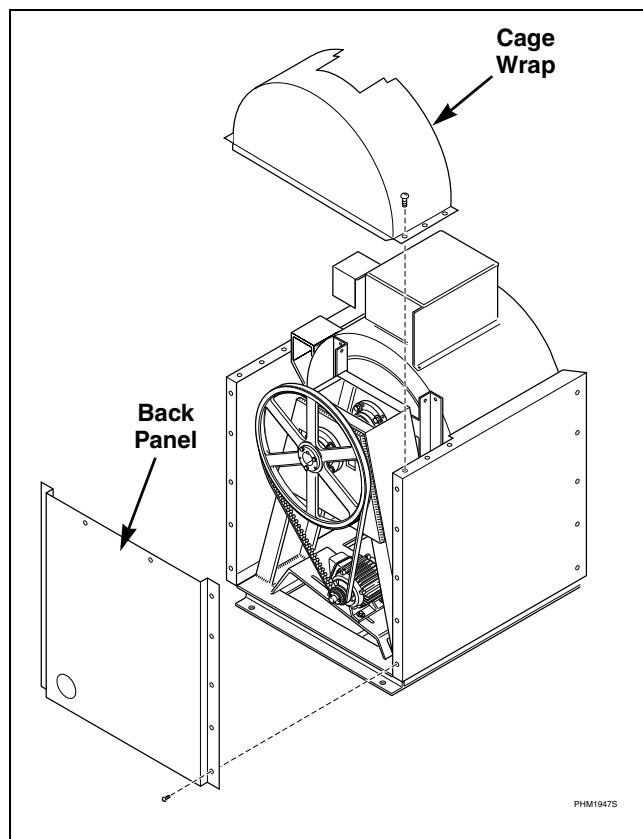
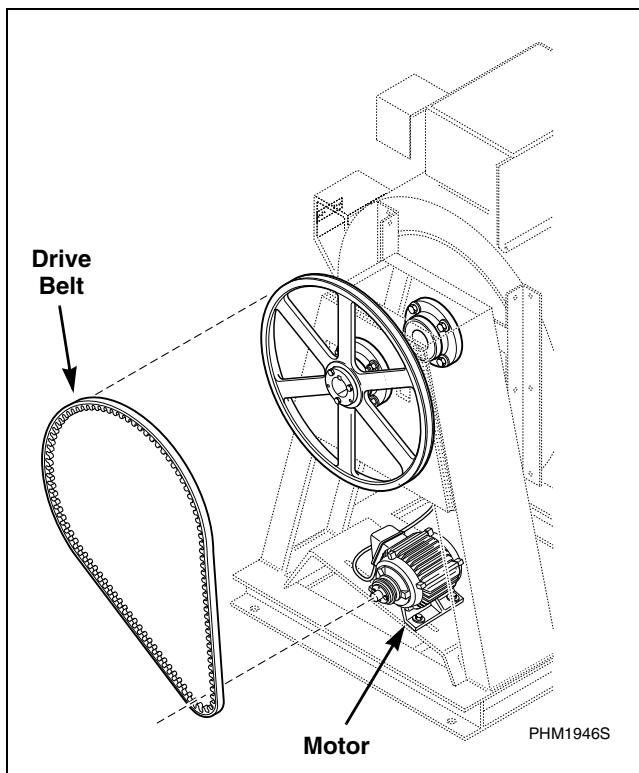

Figure 16
Figure 17
- b. Remove the screws attaching the cage wrap and back panels to the machine. Remove the cage wrap and back panel. Refer to *Figure 16*.
c. Loosen the motor mounting bolts and slide the motor along the motor plate to relieve the tension on the drive belt. Refer to *Figure 17*.
- (1) Using a tension gauge, check the drive belt tension. Belt tension should be between 70 and 90 pounds (\pm 5 pounds). Set the initial belt tension toward the high end of the range.
- (2) To adjust the drive belt tension, loosen the motor mounting bolts and slide the motor plate. Refer to *Figure 17*.